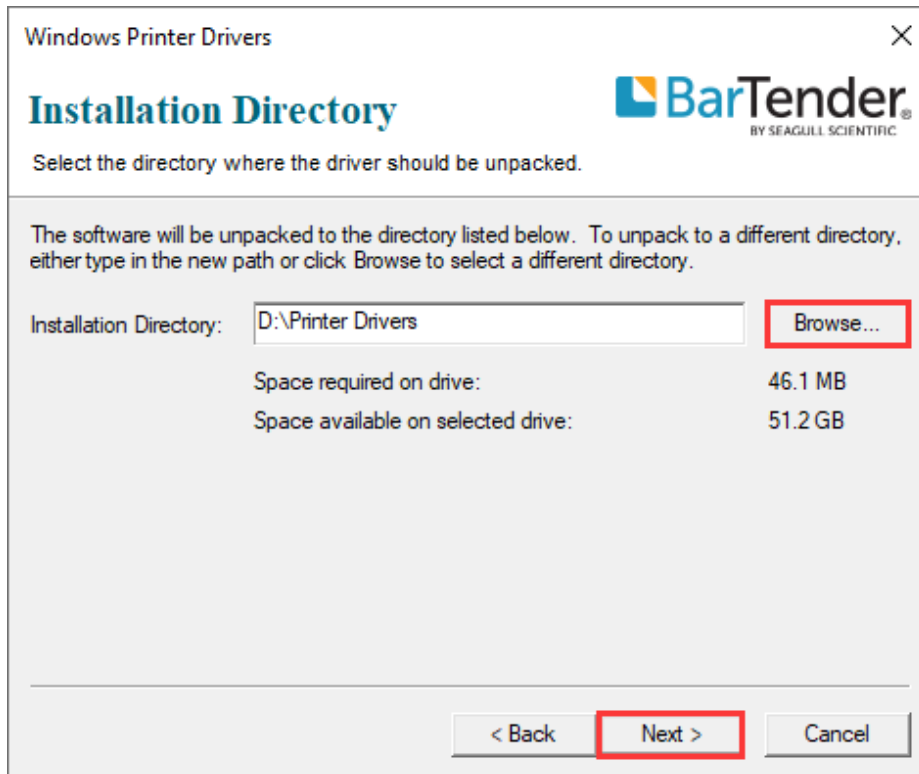

Figure 2-21 Installation Directory Screen
4. The “Installation Directory” screen displays. Click “Browse...” and select where the files will be installed, then click “Next”, as shown in Figure 2-21.